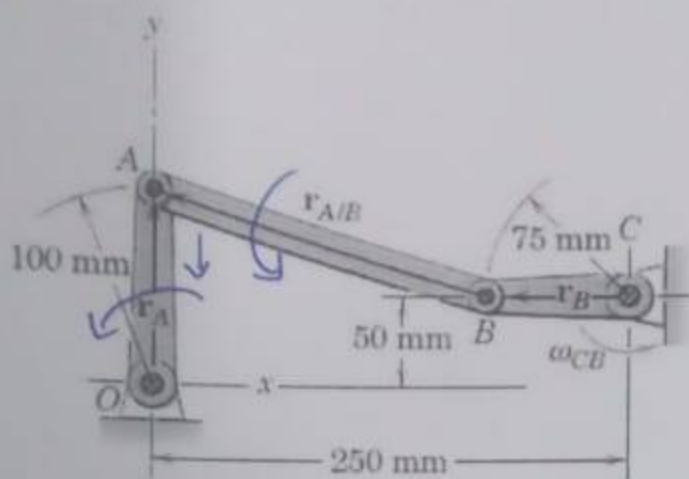

Figure 4. Ripple effect of Cranks pinned at C and O .
- Q4: Crank CB oscillates about C through a limited arc, causing crank OA to oscillate about O as shown in Fig. 4. When the linkage passes the position shown with CB horizontal and OA vertical, the angular velocity of CB is 2 rad/s counterclockwise. For this instant, figure out the angular velocities and angular acceleration of links AB and OA for this position. Solve by using vector algebra.